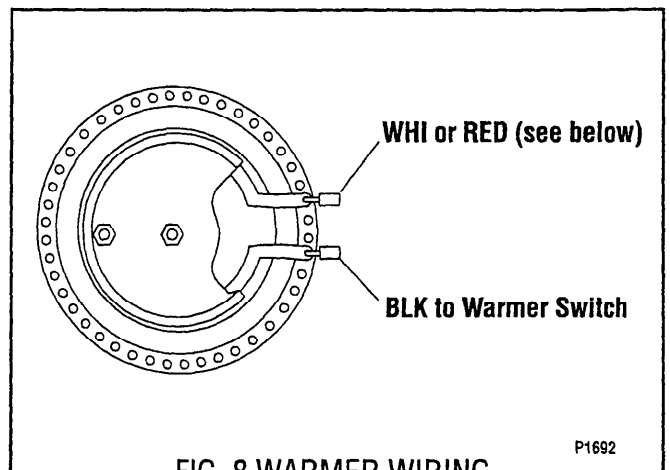

FIG. 8 WARMER WIRING
4. Refer to FIG. 8 when reconnecting the wires.